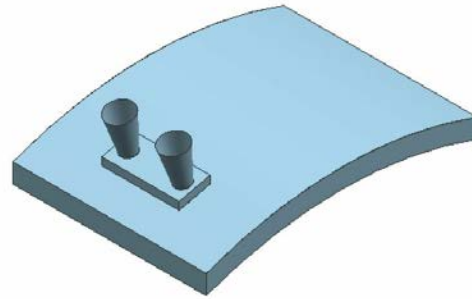

Figure 11-82 Resultant surface model with the mirrored feature
2. Choose the **Plane** button from the dialog box and then select the YC-ZC plane as the mirroring plane. Next, choose the **OK** button; the mirror feature is created, refer to Figure 11-82.